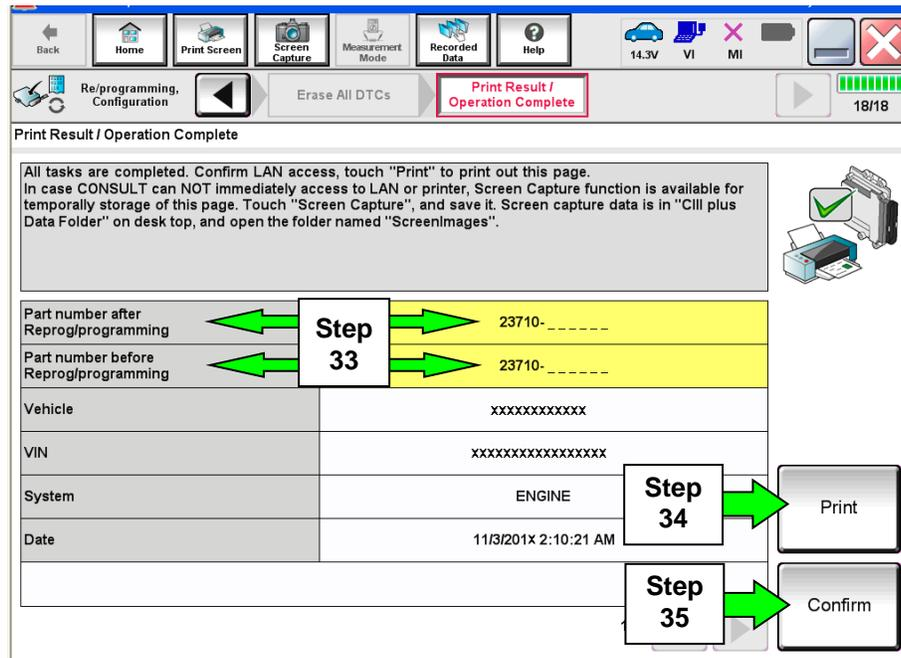

Figure 28
34. Print a copy of this screen (Figure 28) and attach it to the repair order for warranty documentation.